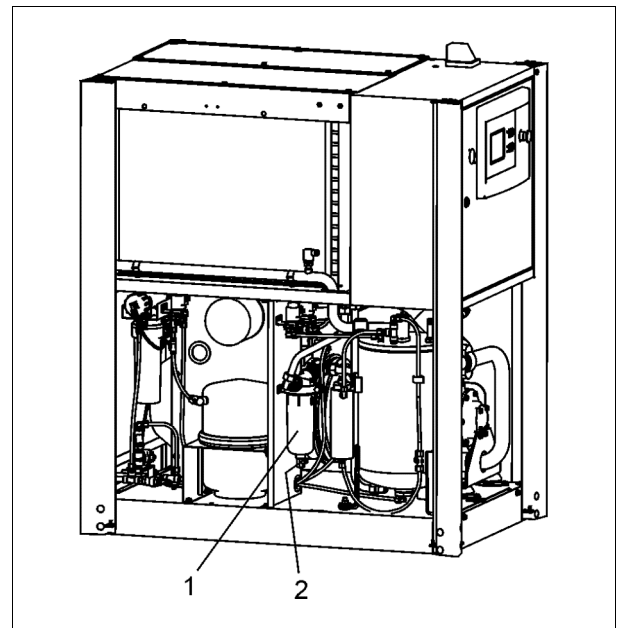

Fig. 17
- Let cooling water drain off via the extraction site (-2- Fig. 17) and drain screw on the water filter housing (-1- Fig. 17).
In order to determine the water quality, a water sample can be extracted as needed (see- Fig. 17).